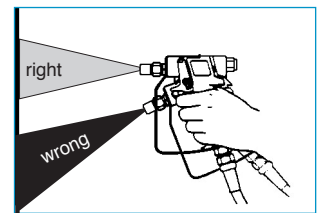

Fig. 66: Spray angle
- Hold the spray gun at a right angle (90°) to the surface to be coated. As soon as you hold the spray gun at a different angle, the coating will become uneven and patchy (see Fig. 66).